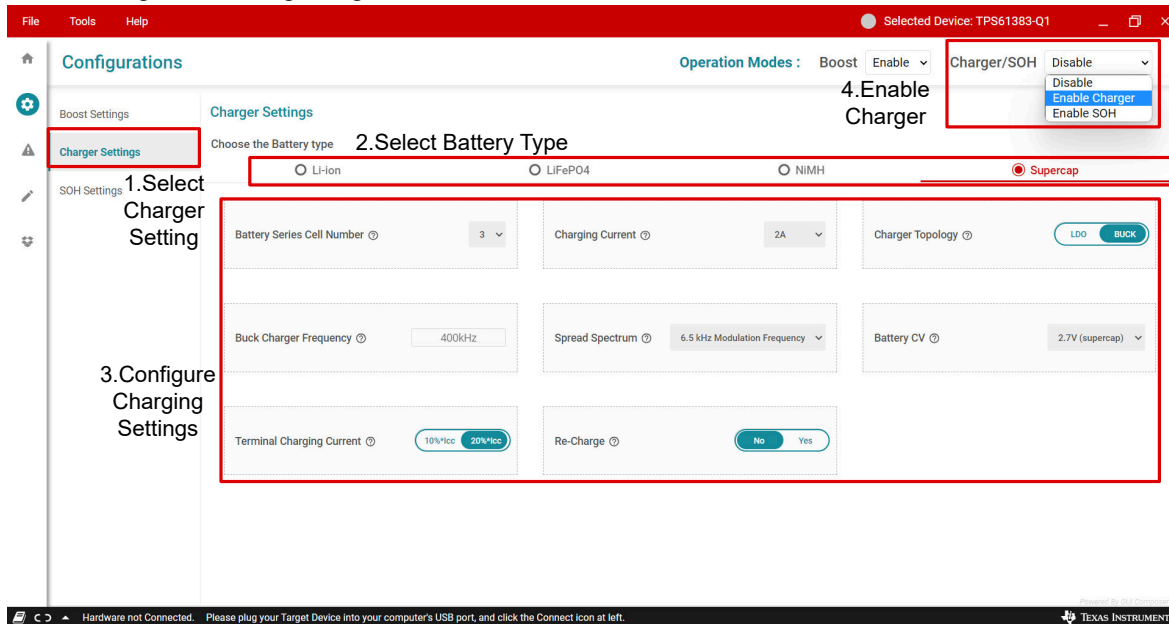

Figure 3-4. Charger Settings Sheet
5. Select the *Charger Settings* button and switch to Charger Settings Sheet (see Figure 3-4). The default settings of the charger is to Li-ion mode. Set the charger mode battery type, cell number, CC current, and so forth according to the design target.